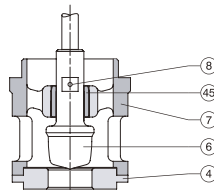

Fig. 7 - Bores - Types : 85-02, 85-08, 85-12, 85-62
2. Remove the stem nuts (23), the packing flange nuts (21) e the packing follower (27).
3. Remove the nuts (46) and the bonnet (14). Be careful not to damage the packing (17) when the stem thread (22) passes by them.
4. Pull the plug (6) out of the body, together with the stem (22), seat retainer (7) (figure 7), body gasket (11), spiral wound (10) and seat retainer gasket (9).
6. Do not remove the guide bush (45) from the seat retainer (7) (figure 7) if the replacement is not necessary. The guide bush is pressed in the seat retainer.
- Remove the nuts (36) and the studs (38). Remove the bonnet (14). Be careful to not damage the packings (17) when the stem threads (22) pass by them.
- Unthread the stem (22) of the sealing set (35) stem.
- Remove the nuts (46) from the housing (34) and remove the set formed by the sealing subset housing (34) with the bellows set (35) and plug (6). In some internal parts construction type this set includes the seat retainer (7) (figure 7).
- If the seat (7) retainer (figure 7) stayed in the valve body, pull it together with the body gasket (11), spiral wound (10) and seat retainer gasket (9).
- If need, separate the bellows set (35) from plug (6), remove the pin (8) and unthread the obturator (6).
- If the seat retainer leaves together with the bellows set, remove the pin (8) and unthread the plug (6), releasing the seat retainer (7) (figure 7), body gasket (11), spiral wound (10) and seat retainer gasket (9).
- In case of the plug replacement (6), a new sealing set (35) must be installed.
4. In case of bush guide (45) replacement, press it at seat retainer (7) (figure 7).
5. In case of stem replacement, thread the new stem (16) in the plug (6) up to the thread end, so that it is very well tightened. Do a passage bore for the pin (8) through the plug (6) and the stem (22) using the bore existing in the plug (6) as a guide. Install a new pin (8) and lock it.
6. In some configurations the plug (6) does not pass by the seat retainer (7) (figure 7). In this case pass the seat retainer (7) by the stem (22).
7. Assemble the seat retainer (7) or the set including the seat retainer (7) (figure 7) and the plug (6) with the stem (22) in the body (1). Be sure the seat retainer is properly mounted in the seat. Any rotary positional of the seat retainer regarding the body is acceptable.
- Put the plug (6) in the seat retainer guide bush (45) by the inferior side of the seat retainer (7) (figure 7).
- Assemble the set including seat retainer (7) (figure 7), plug (6), sealing set (35), bellow housing (34), gaskets and cage adapter (when applicable) on the body (1). Be sure the seat retainer is properly mounted on the seat. Any rotary position of the seat retainer regarding the body is acceptable.
When the plug (6) passes by the seat retainer bush (45) (figure 7), the following procedure must be accomplished:
- Assemble the seat retainer (7) (figure 7) on the body (1). Be sure the seat retainer is properly mounted on the seat. Any rotary position of the seat retainer regarding the body is acceptable.
- Assemble the plug (6), sealing set (35) and housing (34) passing the plug (6) by the guide bush (45) (figure 7).
- Tight the body nuts (46) using as reference, for clean threads, the torques presented in table 1 (page 6). Tight the nuts alternately in a crossed diametrically crossed sequence.